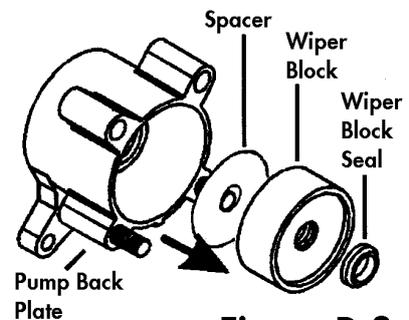

Figure R-3
6. Remove the large O-ring (8012588) from its groove in the side of the pump back plate that faces the pump body. Remove the wiper block and spacer (if present) from the pump back plate. Use needle-nosed pliers to pull the old wiper block seal out of the wiper block. See **Figure R-3**. (Note: This seal is usually damaged during removal. Be sure you have a replacement on hand before removing it.)
5. Install a new wiper block seal (8012776) into the wiper block. The seal must be pressed into a groove inside the bore in the middle of the wiper block with the narrower side of the seal facing outwards. Form the seal into an oval shape by squeezing it between your fingers and press one side of the seal into the groove in the wiper block. Once an edge of the seal is started into the groove, carefully work the rest of the seal into place. After the seal has been installed, slide the spacer (if present) and wiper block onto the piston shaft. The side of the wiper block from which the seal was installed should be facing outward. Refer to **Figure R-3**.